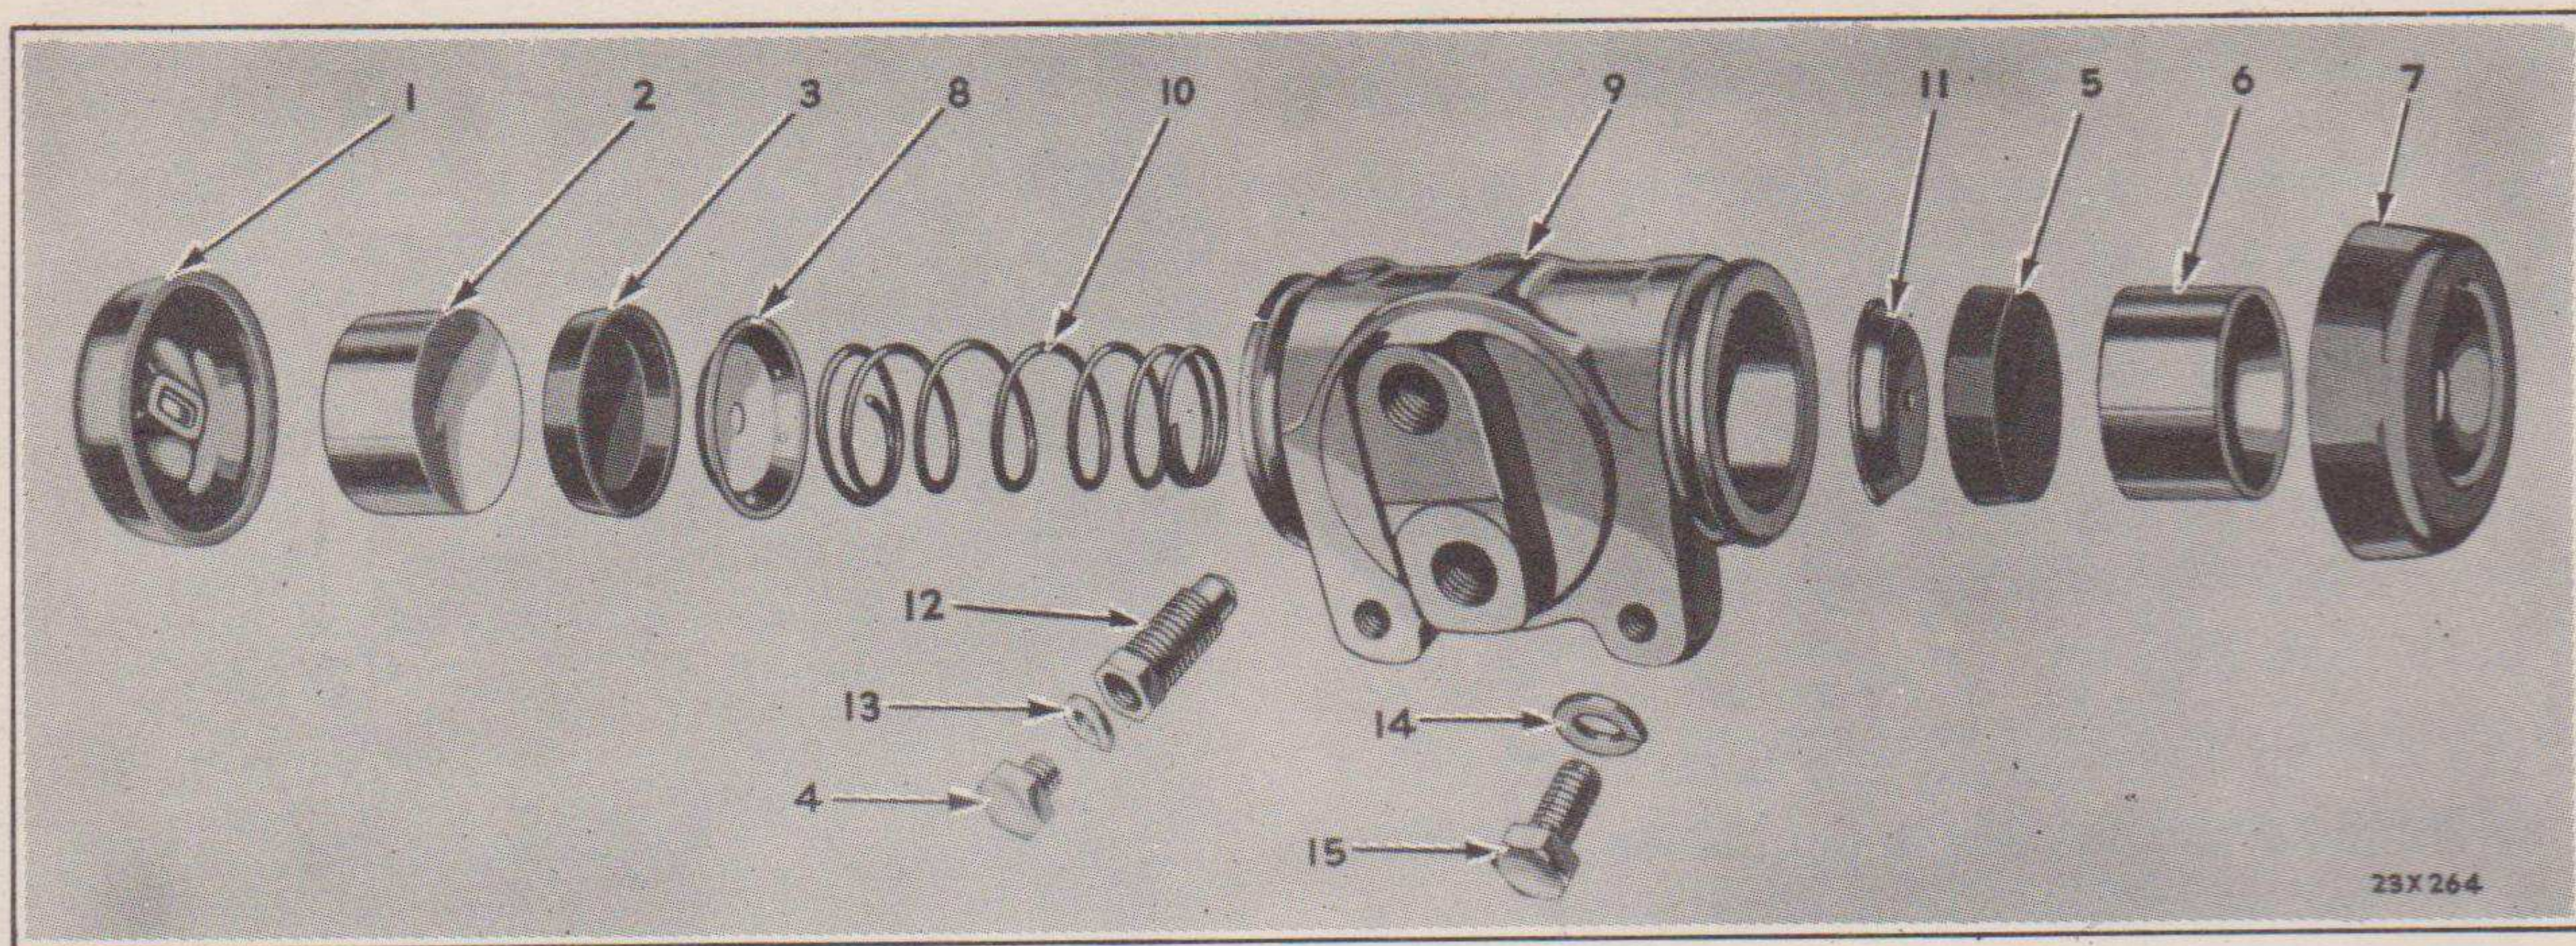

Fig. 80—Brake Wheel Cylinder (disassembled view)
Figs. 80 and 81—Brake Wheel Cylinder
- (h) Pistons, cups and internal parts may then be removed from the brake cylinder. See Figs. 80 and 81.